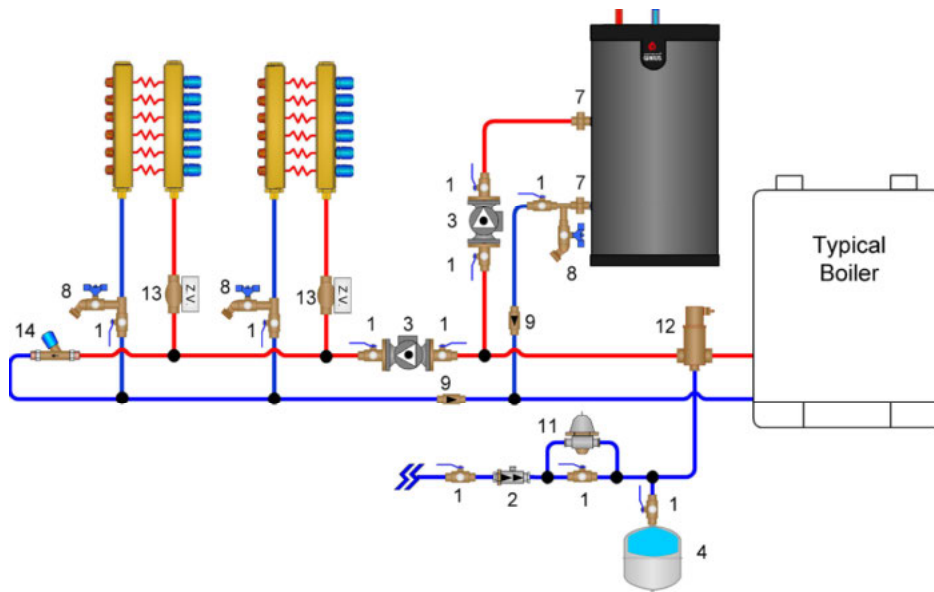
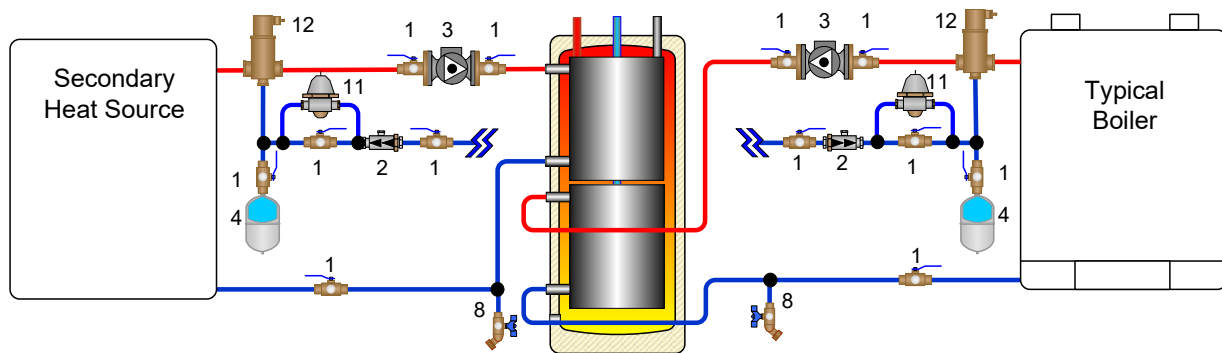

Fig. 6 - GINIUS System Piping with Zone Valves (Domestic Priority)
Fig. 10 - GINIUS Series Water Heater System boiler Piping - Multi Power Sources
- For Boiler water piping, see *Fig. 6 on page 8 thru Fig. 10 on page 10*.